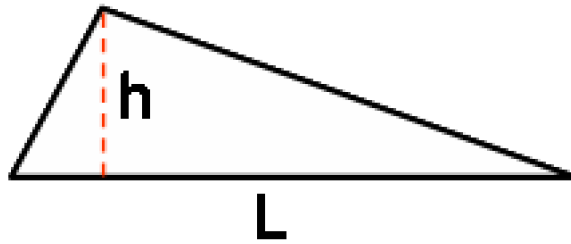

Figure 91: Aspect ratio
The aspect ratio for a triangular element is the ratio of its longest side (L) to its height (h), as shown in Figure 91. The lower the aspect ratio, the better. The average aspect ratio should be below **3:1**, and the maximum should be below **6:1** for Midplane and Fusion models. This is difficult to achieve in practice for complex Fusion models. When creating a 3D mesh from a Fusion mesh, the maximum aspect ratio before conversion should ideally be below **30:1**.